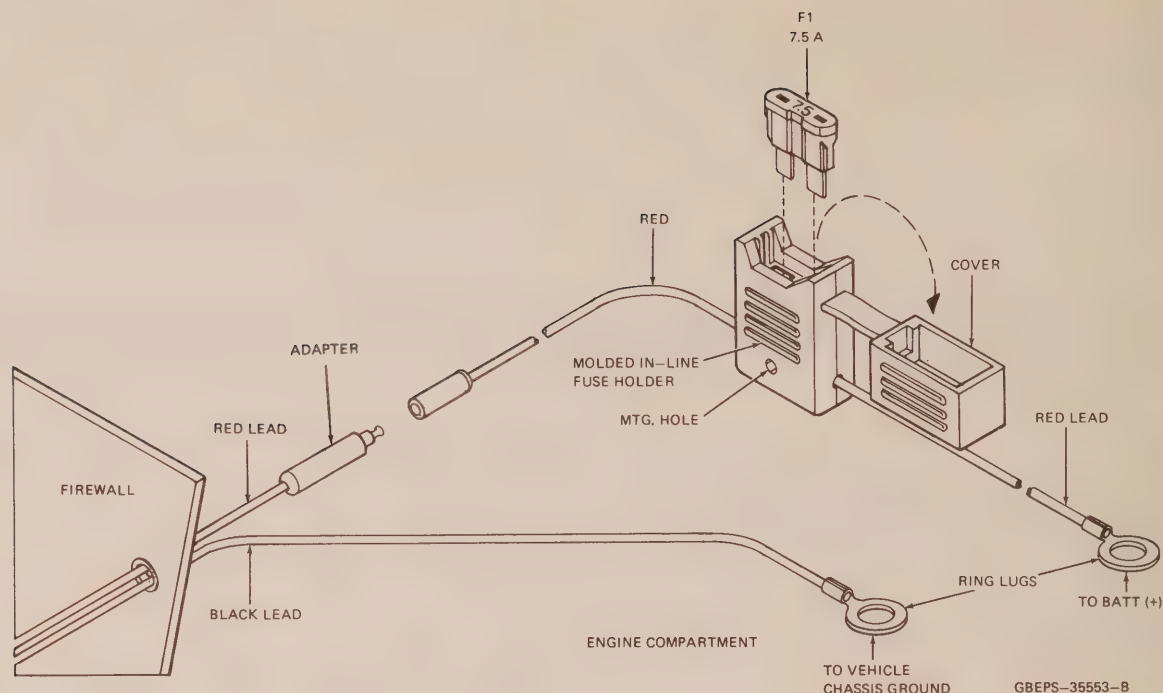

Figure 2. Power Cable Assembly
Step 5. Plug fuse into in-line fuse holder as shown in Figure 2.
Step 6. Install ring lugs (supplied) onto stripped end of power cable BLACK lead, and onto stripped end of RED lead on fuse holder as shown in Figure 2.
Step 7. Connect the fuse holder RED adapter lead plug to the mating receptacle on the RED lead of the power cable as shown in Figure 2.